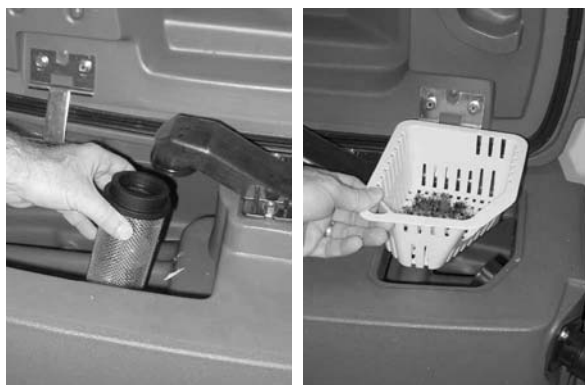

FIG. 31
3. Clean the float shut-off screen and debris tray located in the recovery tank (Figure 31).